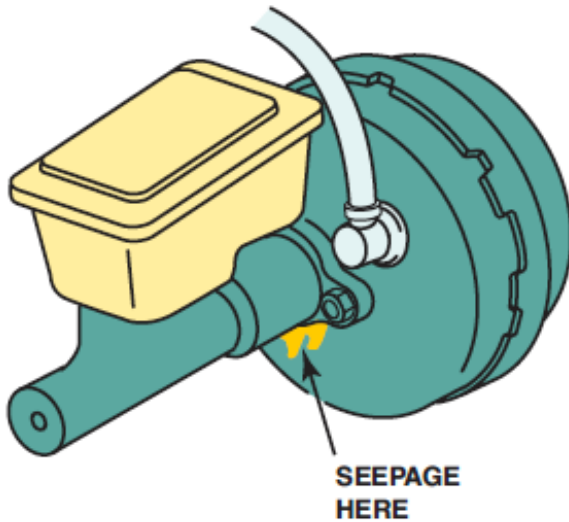

Figure 9. Fluid in this area indicates a leaking primary piston seal.
- Check for any external leaks at the lines or at the pushrod area. Figure 9.